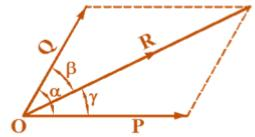

Fig.P1.10
7. Two forces  $P$  and  $Q$  are acting at a point  $O$  as shown in fig.P1.10. The force  $P = 264.9\text{N}$  and force  $Q=195.2\text{N}$ . If the resultant of the forces is equal to 400N, find the values of angles  $\beta$ ,  $\gamma$  and  $\alpha$ .